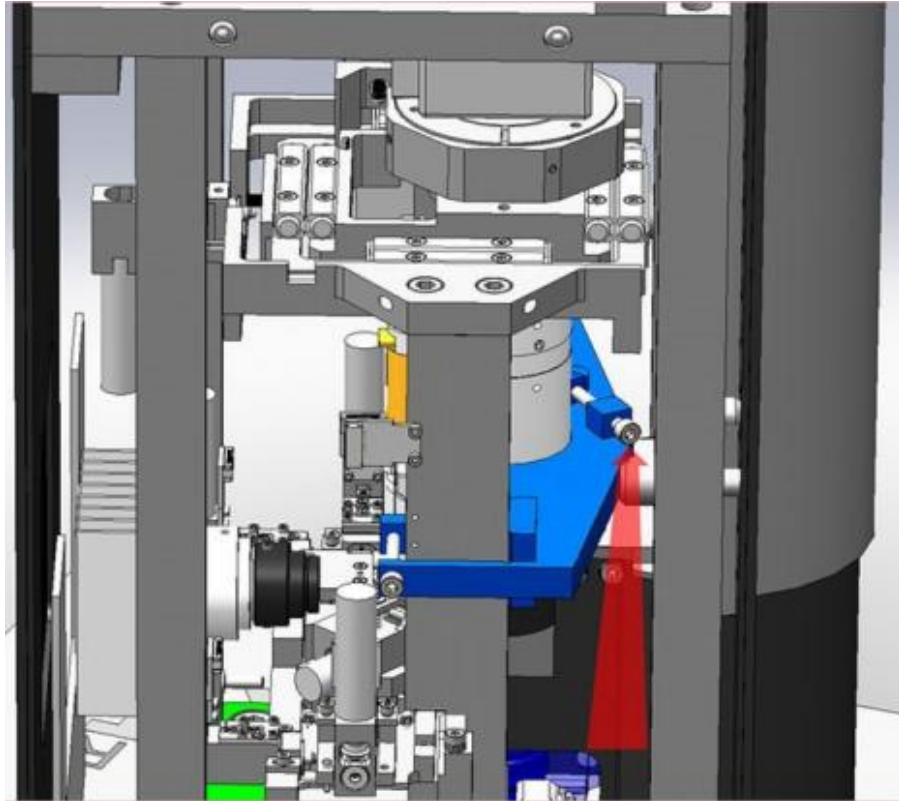

Fig. 2-17. Bracket installed and locked
4. Lock the bracket by securing it with the screw (Fig. 2-17). Ensure that the videomicroscope is secured too.